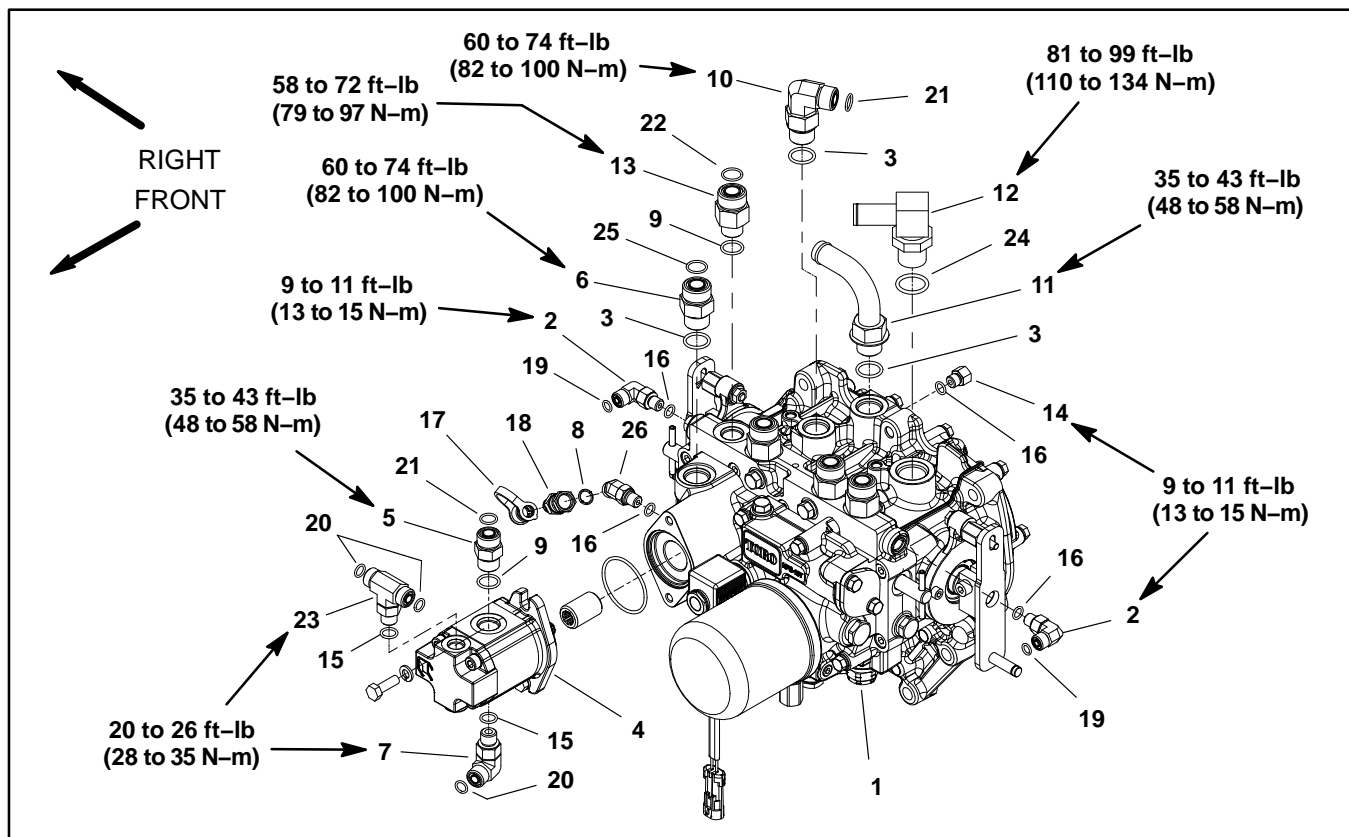

Figure 69
2. If hydraulic fittings were removed from transmission, lubricate and install new O-rings to fittings. Install fittings into transmission ports (see Hydraulic Fitting Installation in the General Information section of this chapter). Tighten fittings to torque values identified in Figure 69.